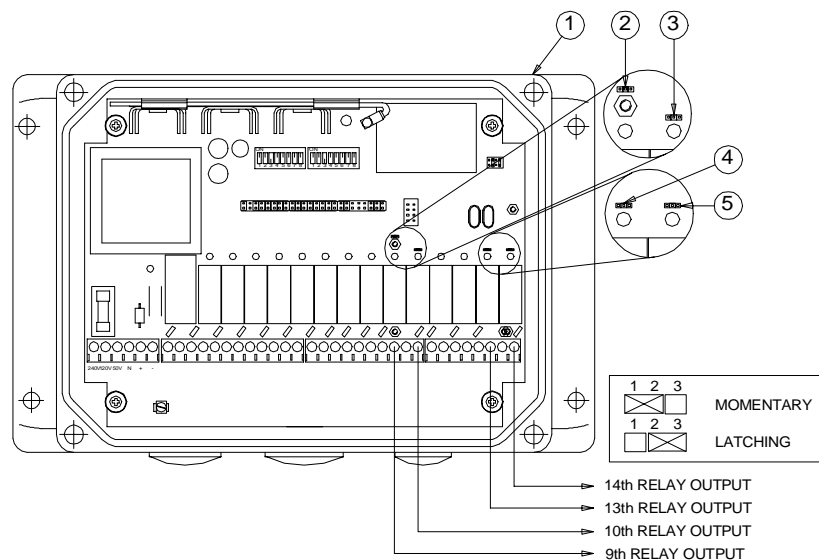

Figure 2.18: Changing the Latching Function
2. Reference Figure 2.18: Changing the Latching Function to locate the Latching Function Jumper Blocks inside the receiver. For momentary control place the jumper on pins 1 and 2 (factory setting). For latching control place the jumper on pins 2 and 3.